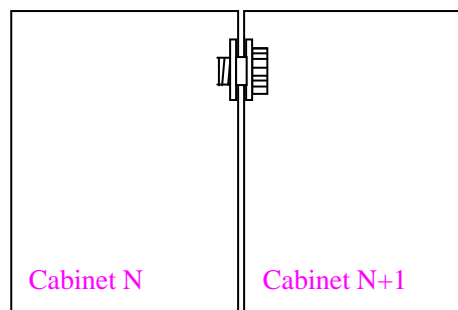

Fig4.3 Step2
Step2: installing hollow screw. Plug the hollow screw into the hole that has covered with waterproof as fig4.3 shows.